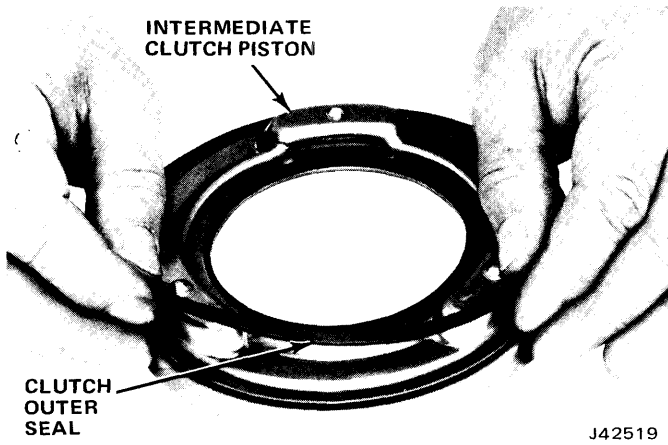
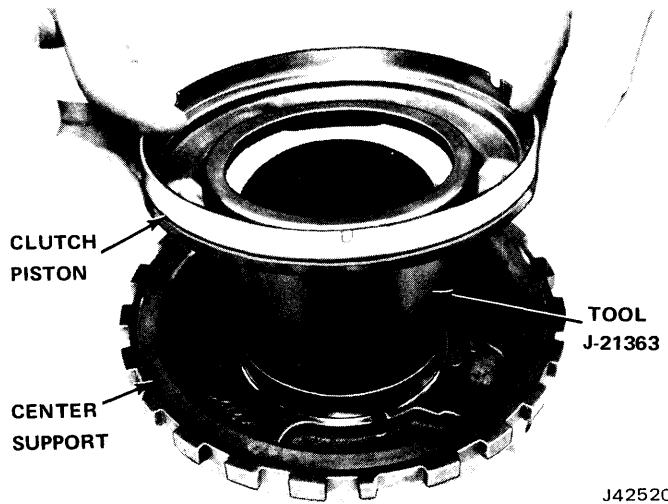

Fig. 7-95 Installing Outer Seal on Intermediate Clutch Piston
Fig. 7-96 Installing Intermediate Clutch Piston
(2) Install outer seal on piston with lip of seal facing away from spring pocket (fig. 7-95).
(3) Place Inner Seal Protector J-21363 on hub of center support.
(4) Install intermediate clutch piston on center support. Index spring pockets of piston with cored areas of center support (fig. 7-96). "Wipe" outer seal lip with smooth screwdriver blade to install.